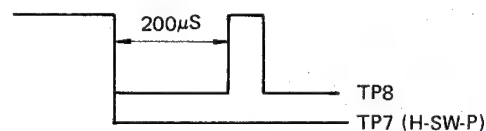

Figure 42
3. Selecting (-) sync slope with the oscilloscope, adjust R751 to meet the requirement given in Figure 42.